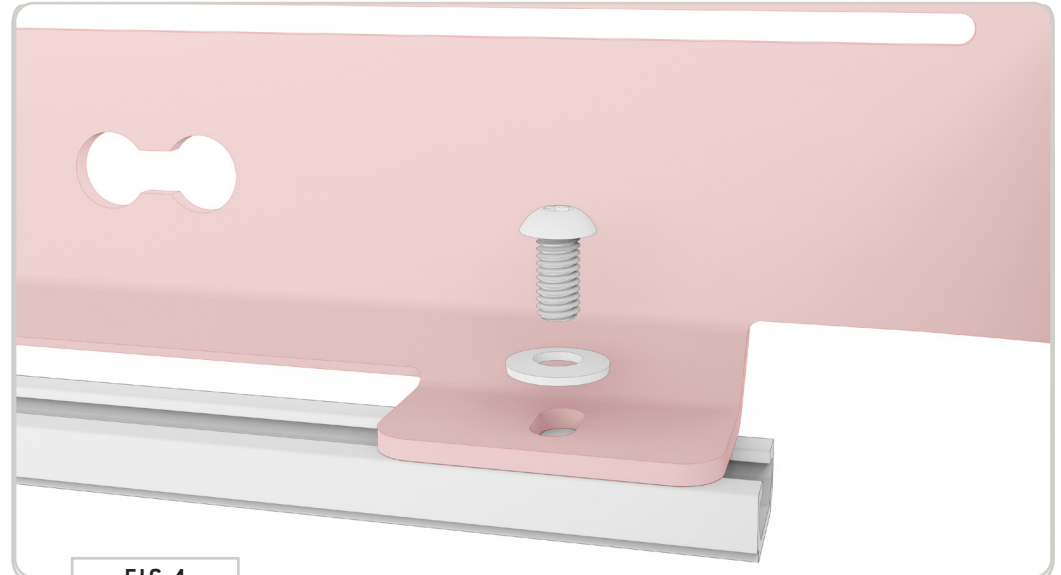

FIG 4
2.1 Install Side Rails: Beginning with the forward section of the rack (see FIG 5 for layout), start loosely attaching the side rails to the roof rails using the **3/8-16" Button Head Screws & 3/8" Lock Washers**, but do not tighten them all the way down yet (FIG 4). If you are not installing a **Side Ladder** at this time, install the **Side Ladder Access Cover** in the location shown in FIG 5.